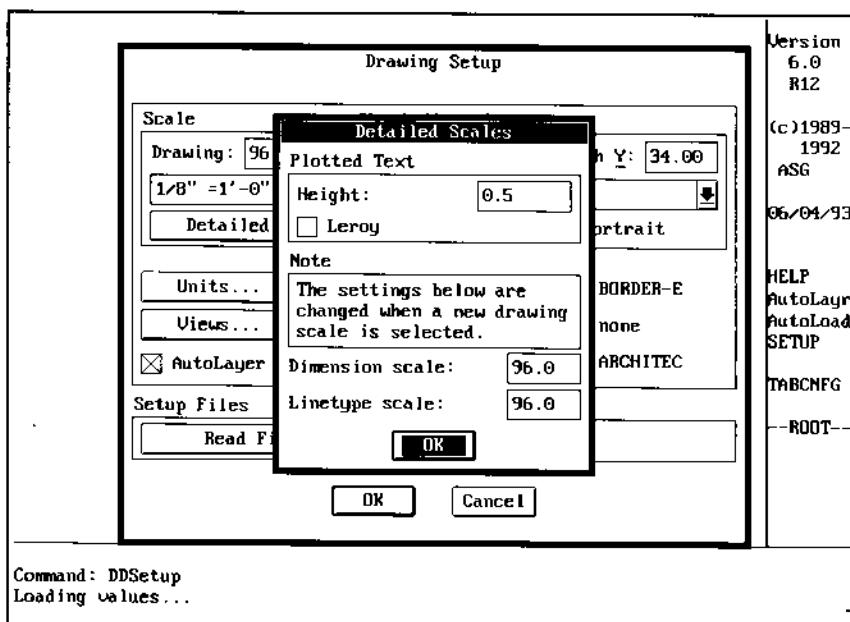

Figure 10.
14. Select the Detailed... pick box to open the Detailed Scales subdialog box as shown in Figure 10. Set the final plotted text height by typing 0.5 in the Height: edit box. Notice the drawing scale is automatically set at 96 for both the Dimension scale and Linetype scale. These values change each time the drawing scale is revised. Pick OK to close the subdialog box.